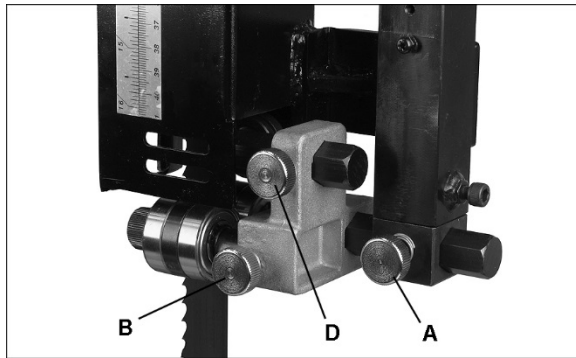

Figure 7-14
Refer to Figures 7-14 and 7-15.
4. Loosen lock knob (A, Figure 7-14).